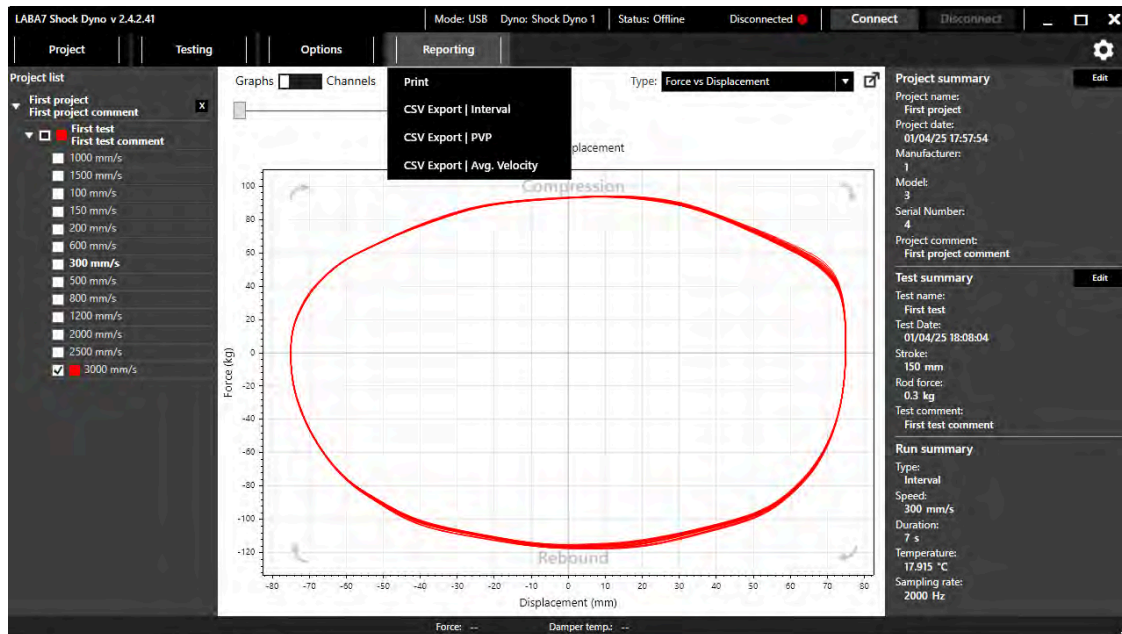

Figure 43
2. Press reporting (figure 43).
2. Press “reporting” (figure 43).